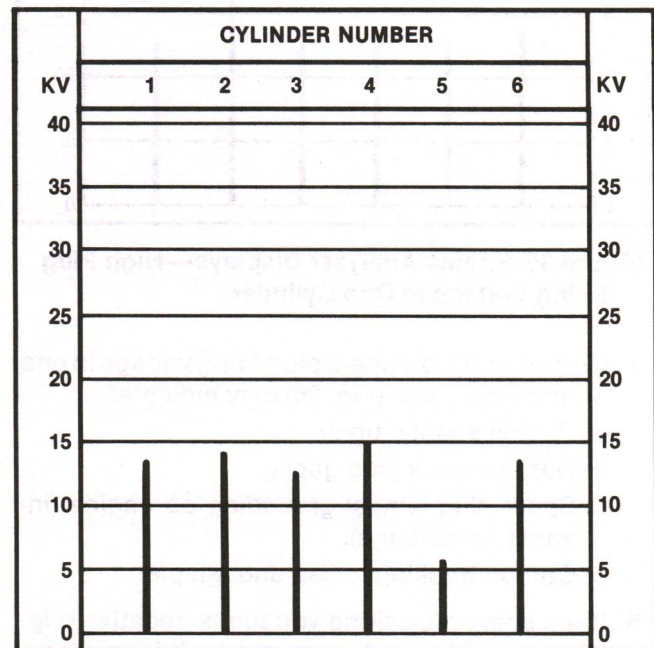

Figure 34. Engine Analyzer Displays—Plug Firing Voltage Variation Greater Than 5 KV
5. If firing voltage variation of spark plug is greater than 5 KV (Fig. 34), the following problems may affect some cylinders: